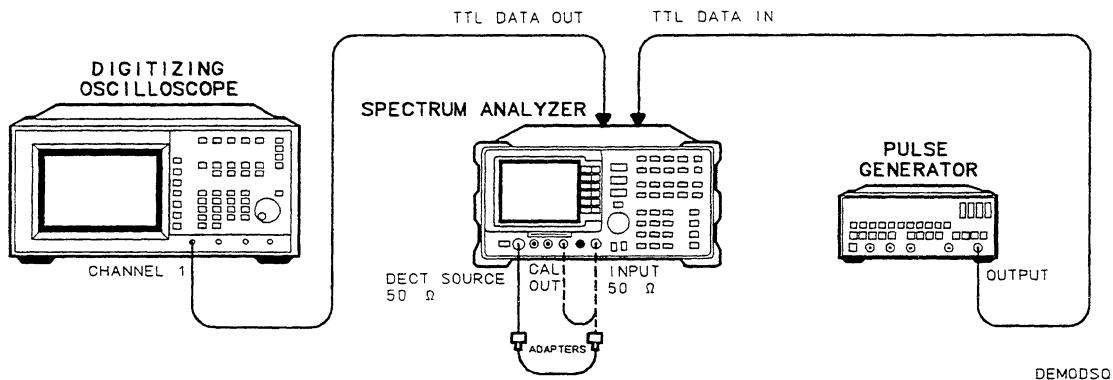

Figure 9-13. Demodulator Squaring Test Setup
11. Connect the spectrum analyzer rear panel DATA OUT connector to channel 1 of the oscilloscope. Refer to Figure 9-13.